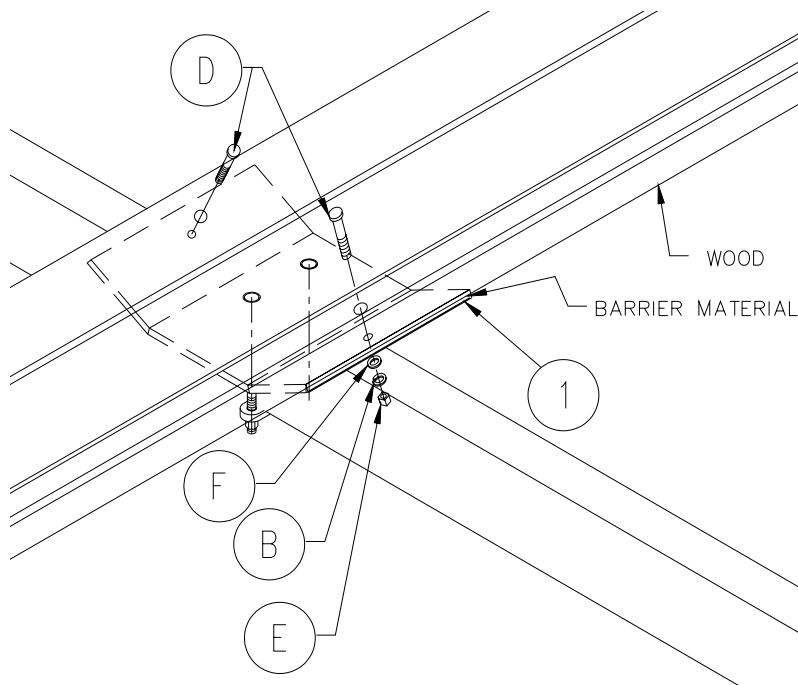

Figure 2-3.
1. Refer to Figure 2-3. Place two of the 2" x 4" x 12' pressure treated wood into the Mounting Plates, one on each side of the 2" x 6". Ensure that the ends of the wood are even with one another.